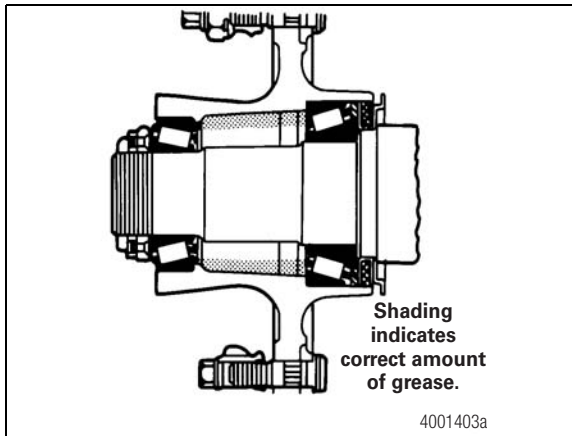

Figure 5.4
- For optional grease-lubricated wheel ends, pack the areas of the hub between the two bearings with Meritor specification O-617-A or O-617-B grease up to the smallest diameter of the bearing cups. Figure 5.4.